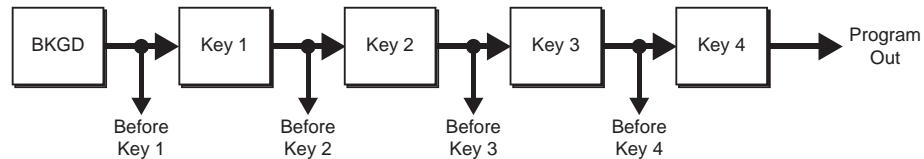

Figure 8.1 Clean Feed can be taken from before or between the keys (4-Keyer Shown)
The FlexiClean™ feature allows you to create a secondary program output that is taken from a different location in the video layering for the selected MLE. The Clean Feed for each MLE can be configured to take the video signal before any of the keys (**Figure 8.1**). This does not include the specific Clean Feed outputs provided by the MultiDSK™ or Mix/DSK options.
- **BeforeKey 1-4** — Select this option to have the Clean Feed output pulled after the program/preset bus of the MLE, but before the keys are added (**Figure 8.1**).